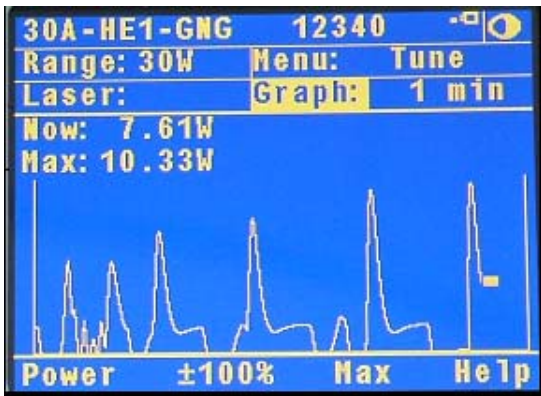

Figure 4.1
4.4.2.3 Tune (See Figure 4.1)
You can now use the tune screen to adjust and maximize your laser power. (See Figure 4.1). Note that you can not only see the trend, but also see if you have already reached a higher value before the numbers on the left side show you the present power reading as well as the highest one reached till now. Press “Max” to reset the maximum reading to the present time. Now measure the power of the laser and adjust the laser until you determine that the power has reached a maximum.